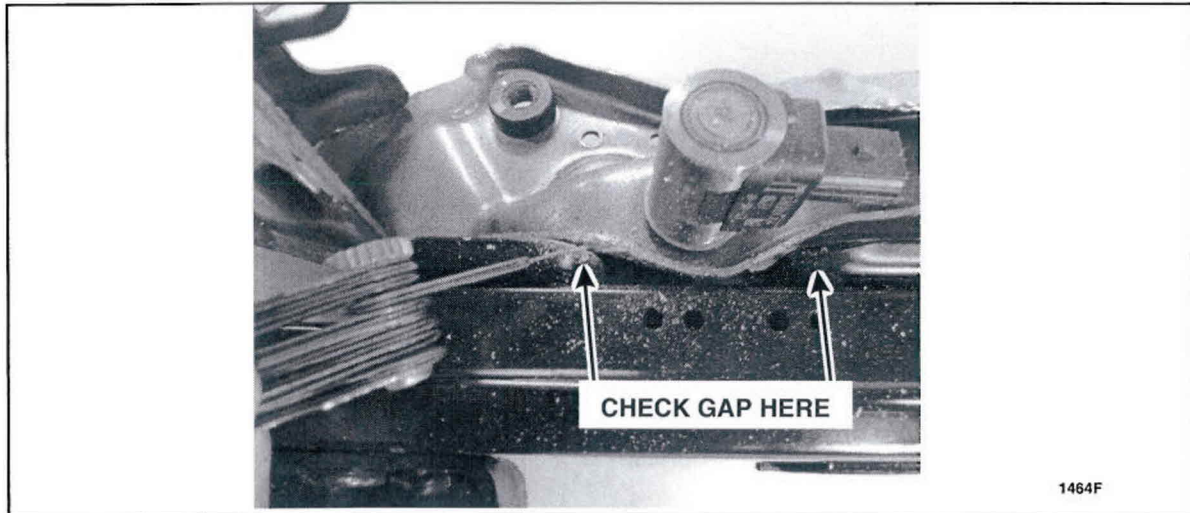

FIGURE 3
- Using a wire feeler gauge, check to make sure that there is a minimum 0.7 mm (0.028 in) clearance between the seat frame and seat track. See Figure 3.